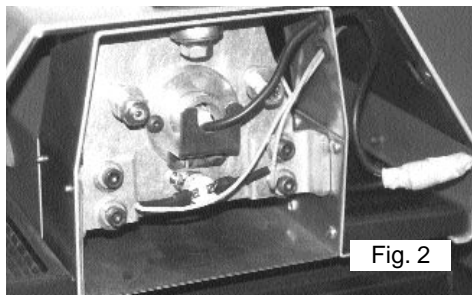

Fig. 2
2. Carefully unwrap the heat resistant tape (M&R Part No. 7019016) from the lamp power conductor connection. Do this on both ends of the lamp. (See Fig.2 and 2A).